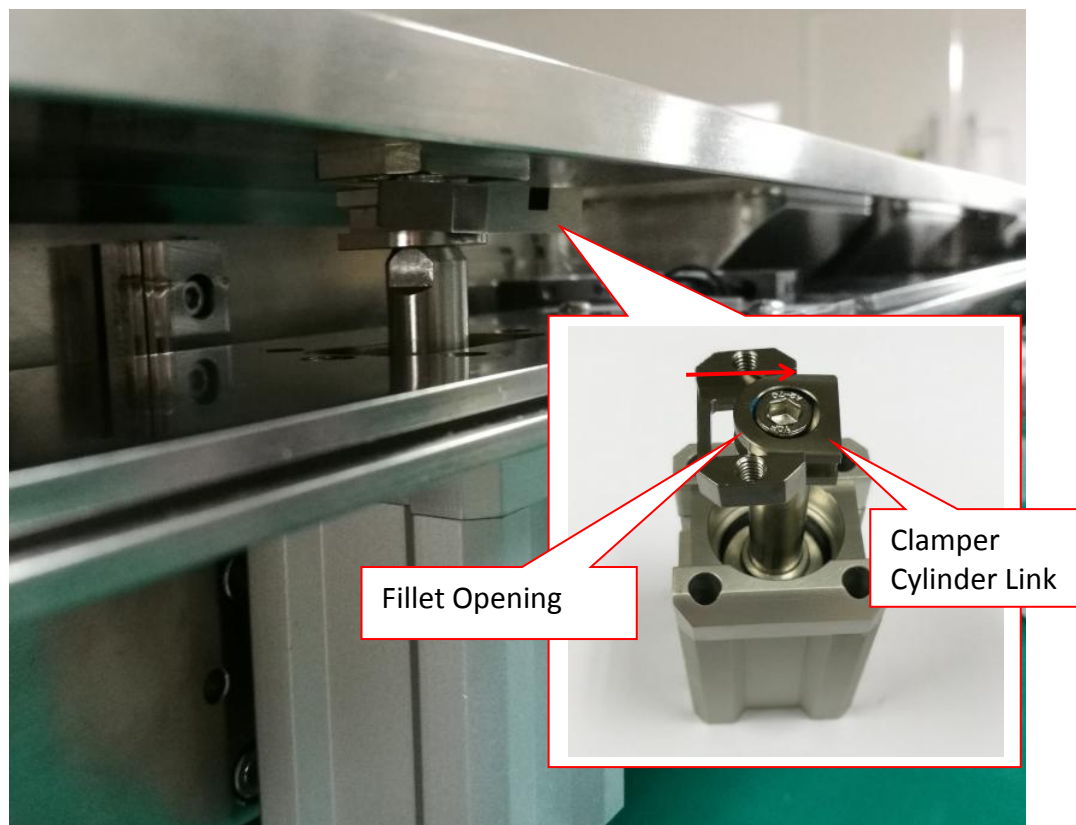

Figure 14 Clamper Cylinder Holder Assembly
5. Gently slot Clamper Cylinder Holder into Clamper Cylinder Link Fillet Opening as Figure 14